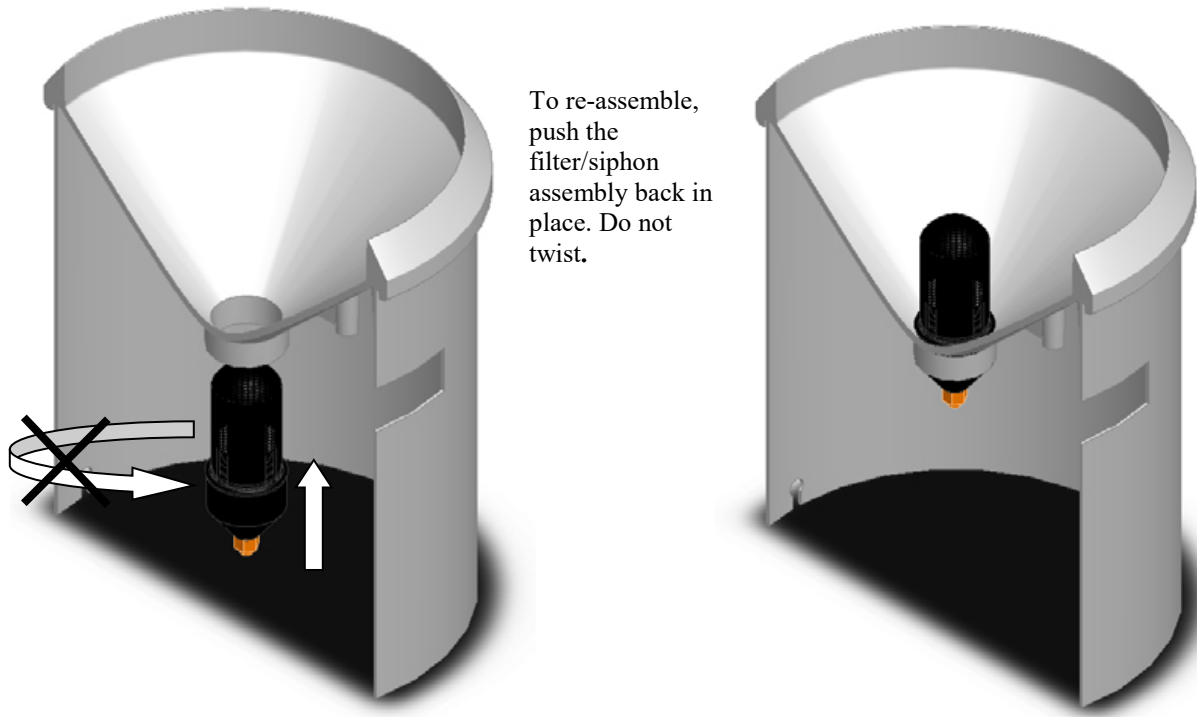

FIGURE 8-4. Reassembling the TB4
4. Push filter/siphon assembly back into place (FIGURE 8-4).